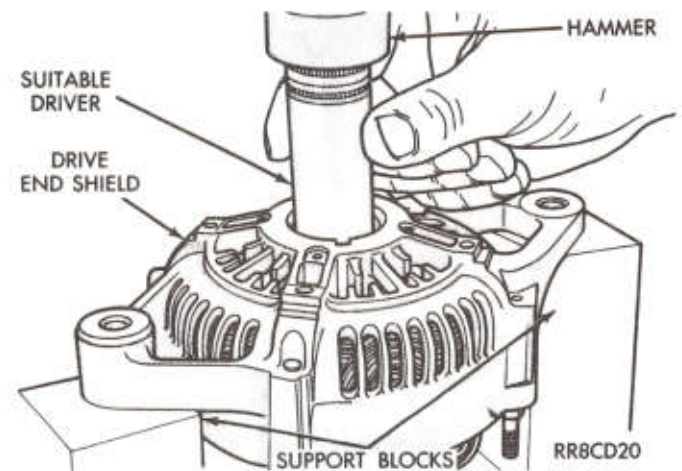

Fig. 19—Remove Drive End Shield Bearing
(13) With the drive end shield on a suitable work surface, use a socket and light hammer, tap the bearing from the drive end shield (Fig. 19).